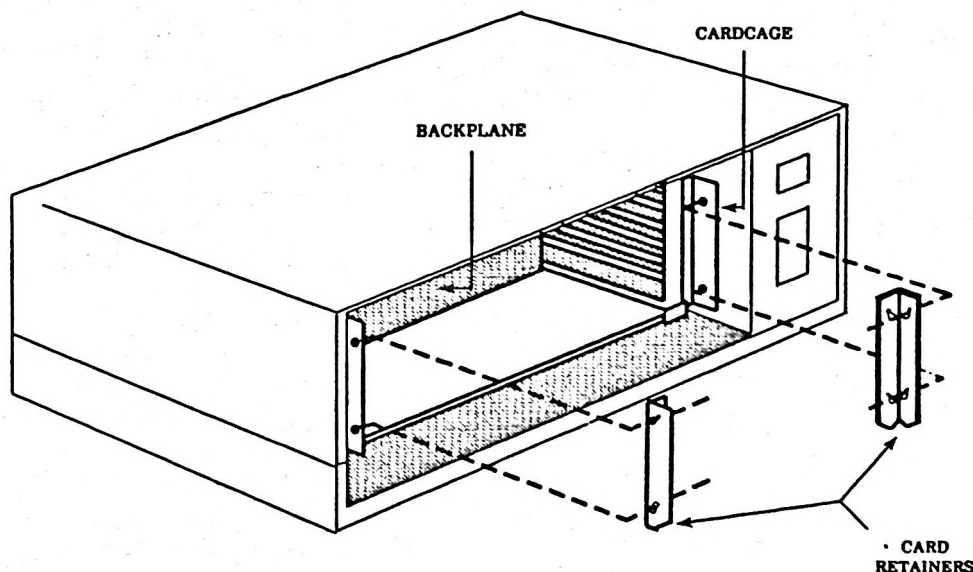

Figure 5-2. Removing the Card Retainers
1. Loosen the screws that hold the two card retainers, shown in Figure 5-2. Lift each retainer up until it is free of the mounting screw and remove it. Save the retainers. These retainers prevent the cards from vibrating loose from the backplane during operation and transportation.